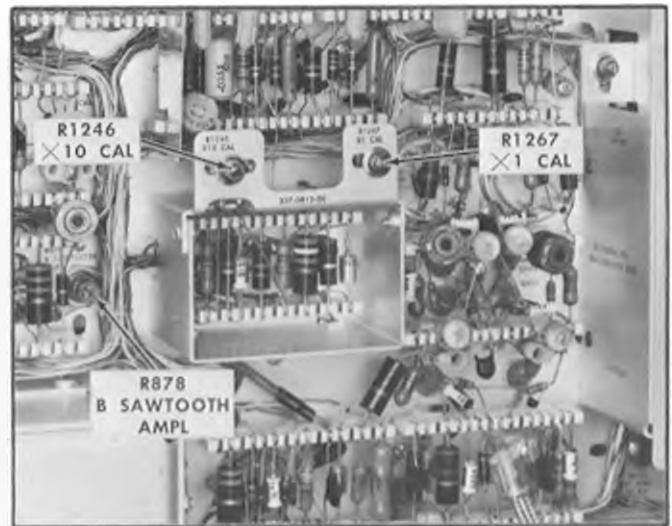

Fig. 6-36. Adjustment location for basic timing and B sweep amplitude.
- Adjust B Sawtooth Amplitude control R878 (see Fig. 6-36) so the trace ends as the 22nd marker becomes visible (sweep length is 10.5 cm).
- Adjust R1246 (see Fig. 6-36) to obtain one 100-microsecond marker/cm.
- Adjust R1267 to obtain one 1-millisecond marker/cm. R1267 is located on the same bracket adjacent to the  $\times 10$  adjustment (see Fig. 6-36).